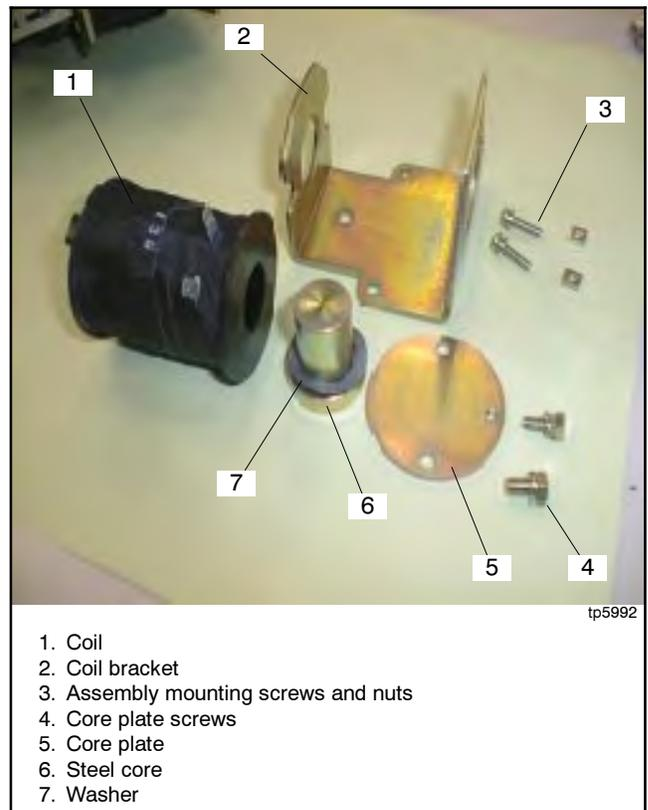

Figure 7-8 Coil Assembly Parts
2. Remove the core plate and the steel core with washer. See Figure 7-8.
3. Remove the coil from the coil bracket. See Figure 7-8.